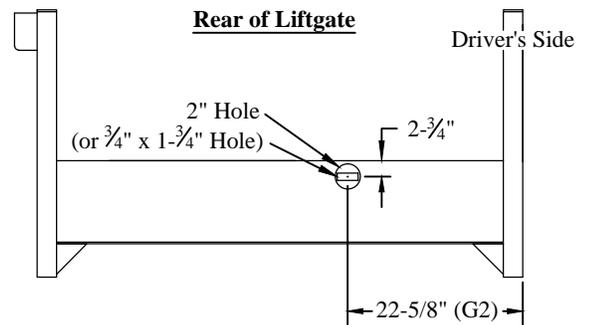

Figure 9: Spare tire access.
2. **Remove** the black plastic plug for your application (Figure 9).
3. **Drill** a hole as indicated if one does not exist (Figure 9).